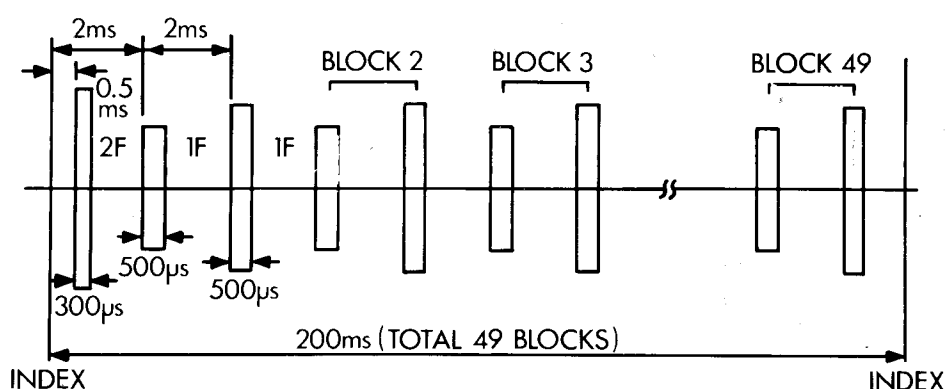

Fig.1 Waveform of T19 (Servo pattern)
1. Radial adjustment by use of Track 19 (Fig. 1). (Track 39, 119).	○